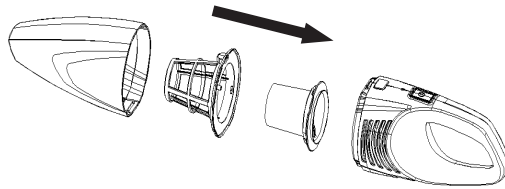

Fig. 18
- After cleaning the dust box, first install the filter (6) into the filter holder (5), and then put it into the dust box, then install the dust box into the sub-unit (see Fig. 18).